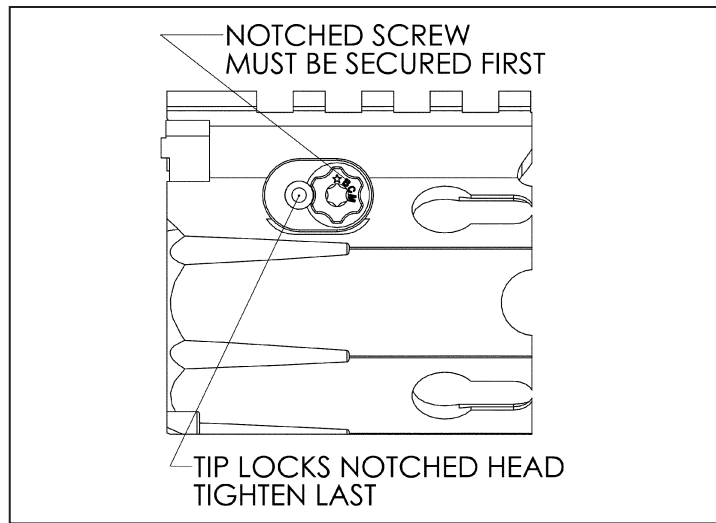

Figure 4
21. Continue to tighten the notched cross bolt to 30-40 in-lbs. so that the notch in the head aligns with the adjacent screw hole as shown in **Figure 4**.
22. Tighten the locking cross bolt (ensure it lines up with a notch in the notched cross bolt) to 30-40 in-lbs. **NEVER over tighten. Excessive tightening can damage the notched cross bolt. Note:** The tip of the locking cross bolt will lock the notched cross bolt. (See **Figure 4**.)